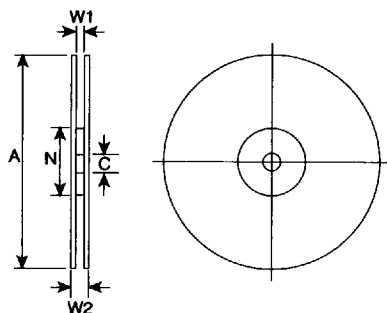

Fig.4 Reel Dimensions
will take to turn off after an inband signal has been removed. The turn off time is calculated with a diode (1N914 or similar) between pins 5 and 6 as shown in Figure 4. The effect of this diode is to greatly reduce the turn off time with signal input amplitudes greater than 300mV R.M.S.
6.1 Tape will be wound on anti-static plastic reels (See Figure 4)